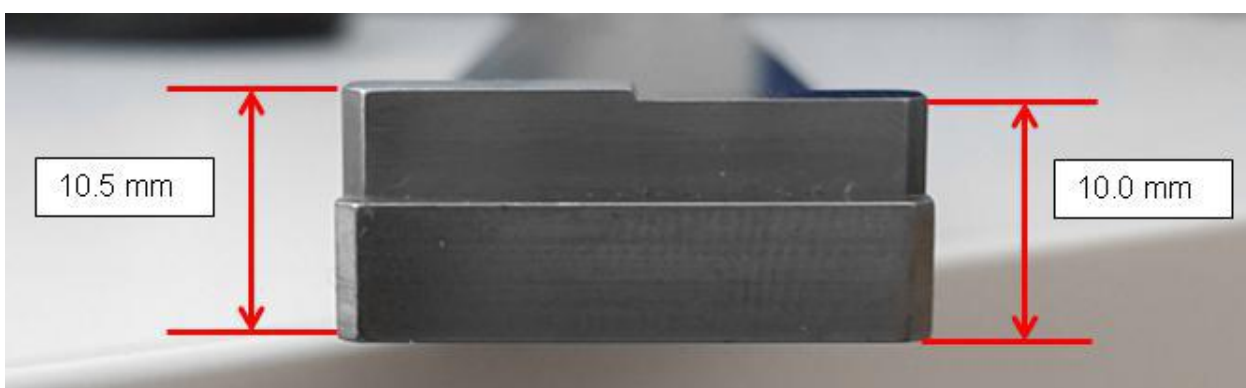
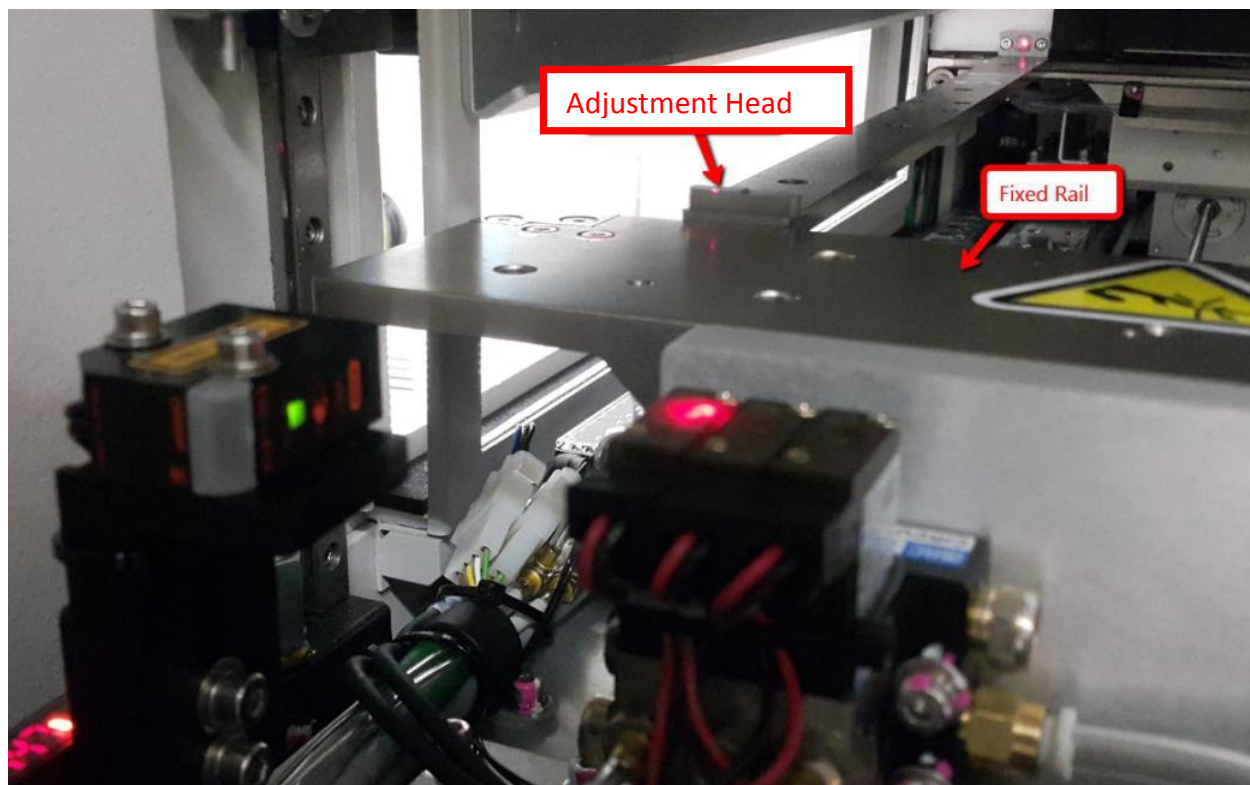

Figure 7 4XASS-357 Adjustment Head
Figure 8 Filter Height Jig Position
8. Position 4XASS-357 with adjustment head (Figure 7) at Fixed Rail (Near to Left Outer Barrier) as Figure 8